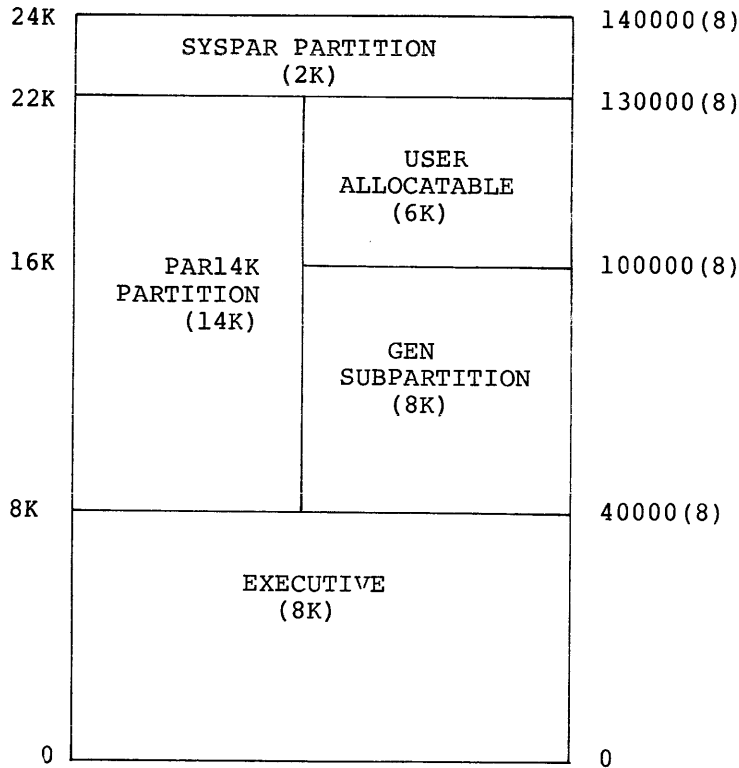
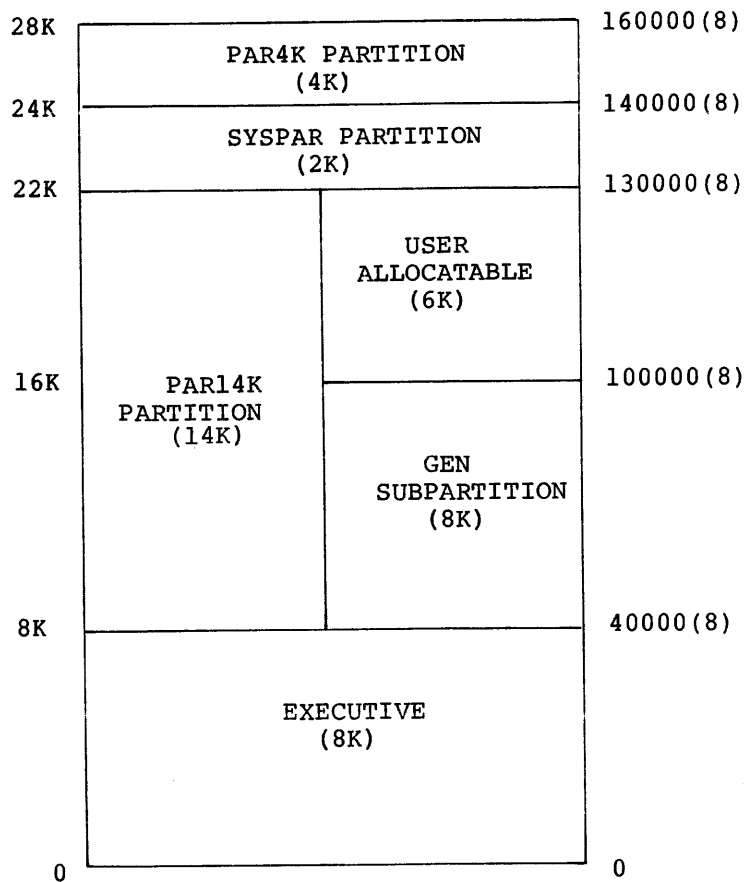

Figure 4-1
Figure 4-2
If, after the creation of the user-tailored Executive, \$SYTOP exceeds 30100(8), but is less than 40000(8), the simplest strategy is to move the SYSPAR partition. This means that only the task build command files for MCR, FCP, and TKN need to be edited. Figure 4-1 depicts a suggested layout for a 24K system where \$SYTOP lies between 30100(8) and 40000(8).
Figure 4-1 shows that SYSPAR was moved, requiring the editing of the task build command files for MCR, FCP, and TKN. The partition PAR14K is now a real partition (rather than a pseudo partition, as was the case in a 16K system) and is properly placed to run BIGTKB without rebuilding. Furthermore, GEN has not been moved; therefore, no system task other than the privileged tasks running in GEN need be rebuilt. Finally, a user-allocatable subpartition of 6K is available in PAR14K. Of course, the user is free to define this 6K memory block into any configuration of subpartitions that meets his requirements.
Figure 4-2 illustrates a suggested 28K unmapped system. It is identical to Figure 4-1 in its allocation of the 0-24K block of memory. The additional 4K is allocated as a main partition which can be used by the print spooler (which actually requires only 2K) or which can be partitioned to suit user requirements.
If the print spooler is operating in a dedicated partition, the printer to which output is being spooled will print at a maximum throughput rate. This is the reason for allocating the partitions as shown in Figure 4-2.